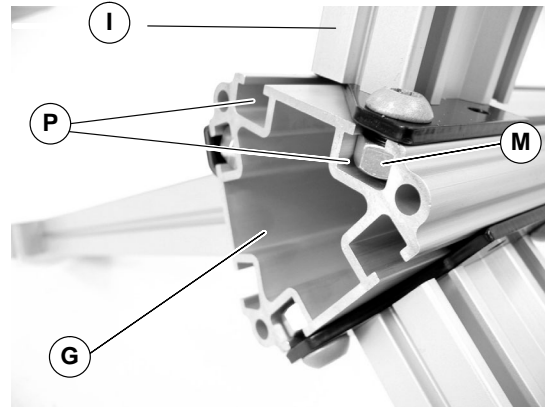

Figure 5
- Align the leg tube end plate hex nuts (M of Figure 5) with the t-slots (P) on one side of the trileg post (G). Slide the hex nuts (M) into the T-slots (P).